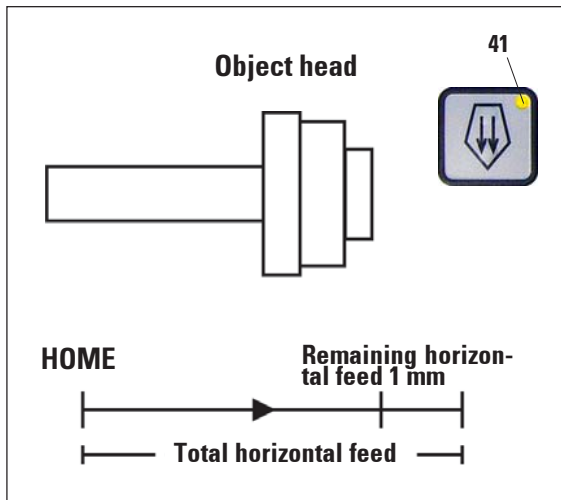

Fig. 16
- You can continue with your working routine. The yellow LED (41) in the **COARSE FEED** button lights up (Fig. 16).